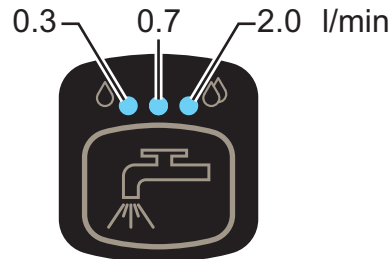

Figure 4
10. Adjust the detergent flow by pressing the push-button (43) as necessary, depending on the type of cleaning to be performed. When the LED is on, it indicates the value in litres per minute of solution flow supplied, as shown in the Figure 4. When the LEDs are off, the solution flow is stopped.